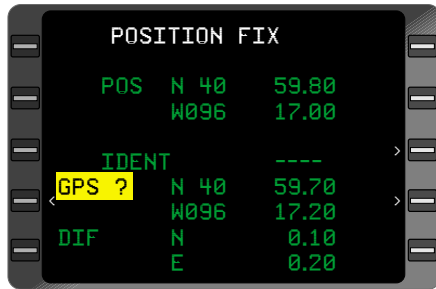

Figure 3-178
- 3. **BACK** Key - DEPRESS until the desired sensor (preferably the GPS sensor) to be used as the update reference appears in the cursor. The position of each sensor will appear sequentially along with the **DIF** to the composite position. (Figure 3-178)